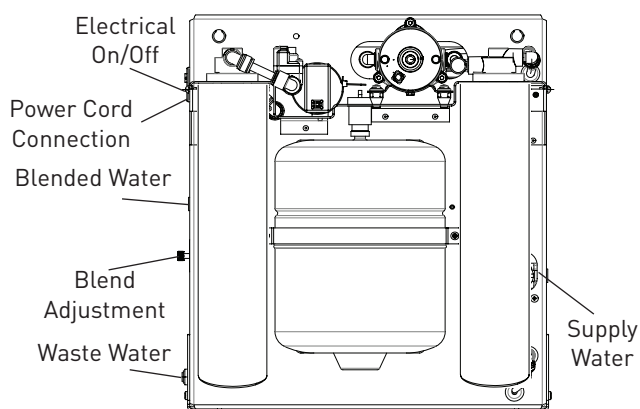

Figure 3
1. Refer to Figure 3 (cover removed) for a general description of connection points.
3. Locate an appropriate point in the hard water plumbing to tie in a new section of tubing/piping that can be routed to the RO system. CLOSE the nearest shut-off valve that is upstream from the tie-in point and relieve the pressure in the line. Install the 3/8" (9.5 mm) tubing/piping section and connect it to the INLET - Supply Water fitting. See Figure 3.